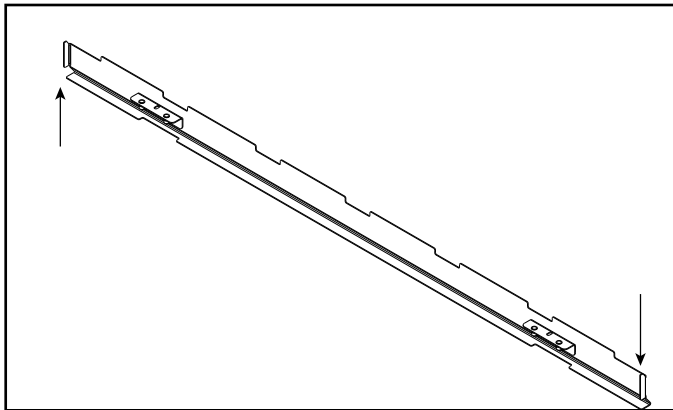

Figure 11.17 Glass Retainer Bar Assembly Locating Tabs
- Align the glass retainer bar assembly with the appliance retaining channel. Use the locating tabs on the sides of the glass retainer bar assembly to help center left and right. See Figure 11.17.